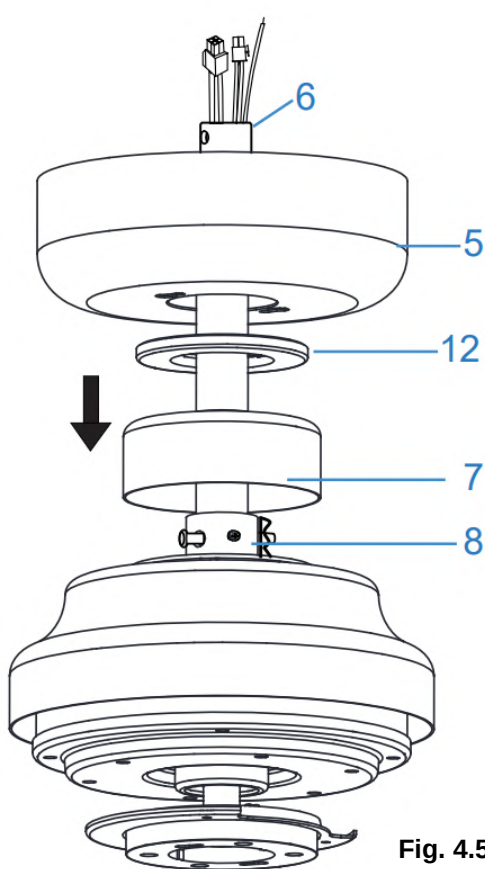

Fig. 4.5
6. Insert the decorative cover (7) onto the down rod (6) to cover the down rod coupling housing (8). (Fig. 4.5)
7. Insert the canopy cover (12) & canopy (5) over the down rod (6) and install the ball joint (2) and dowel pin (3) back onto the down rod (6) and secure by tightening the set screws (4). (Fig. 4.5 & Fig.4.6)